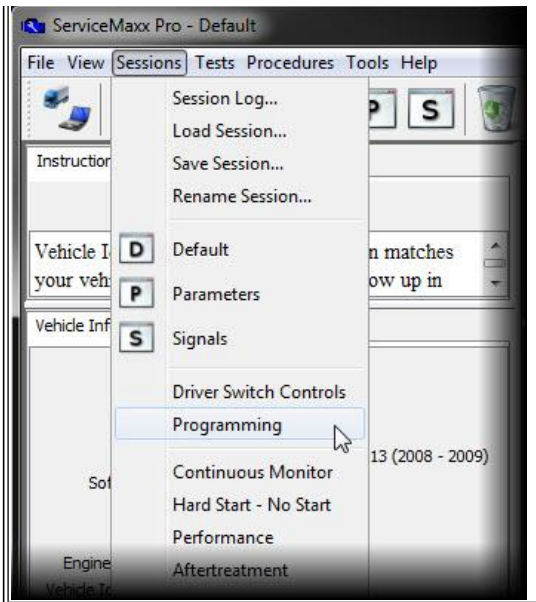
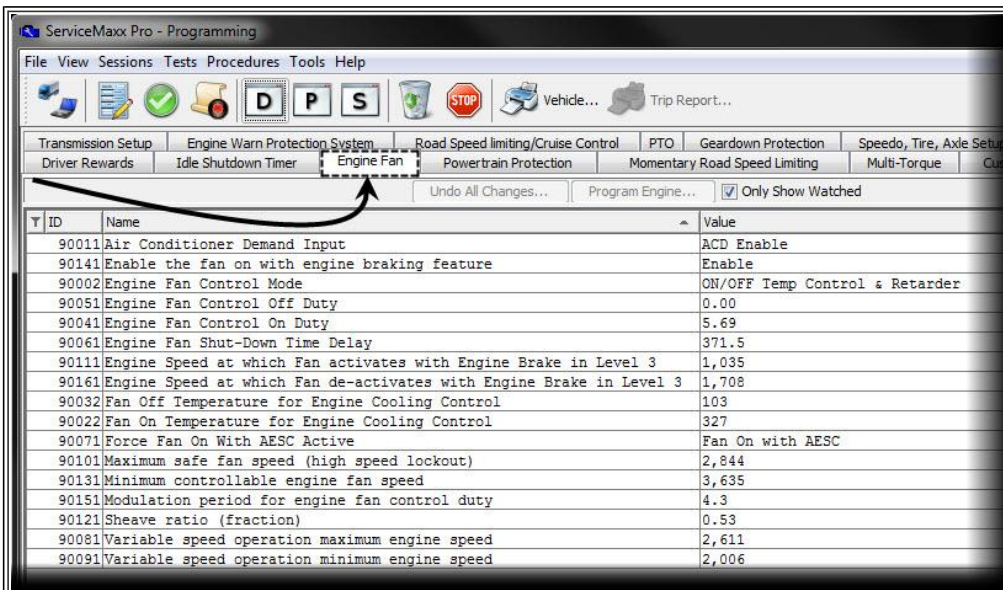

Figure 12
Figure 13
4. Open a Programming session in ServiceMaxx (Figure 12) and view the Engine Fan tab (Figure 13) to monitor signals.